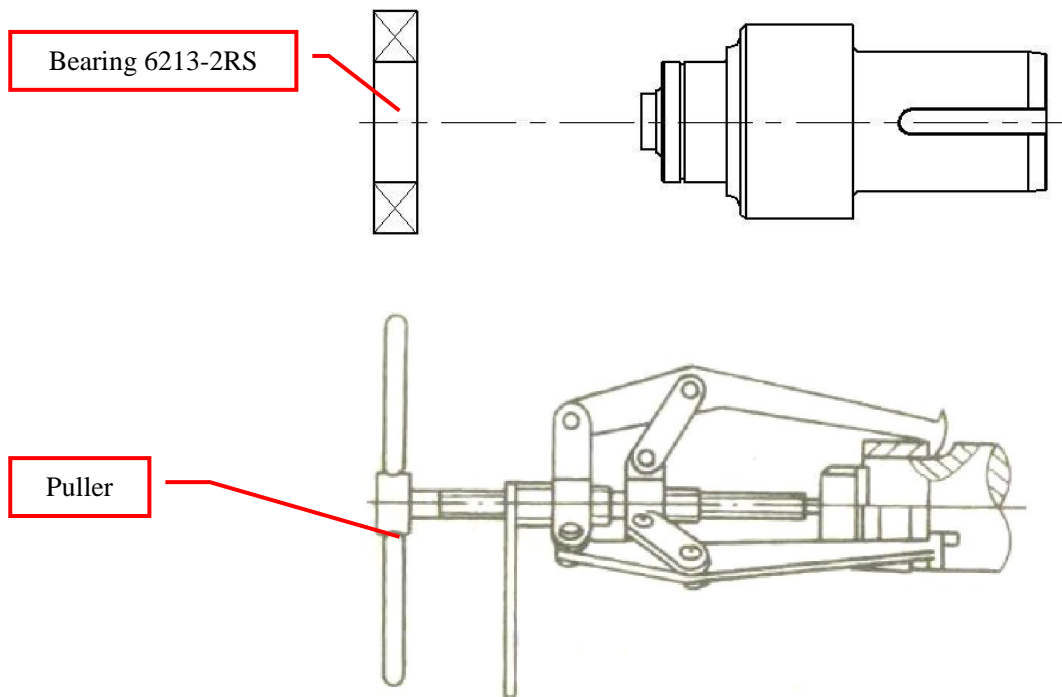
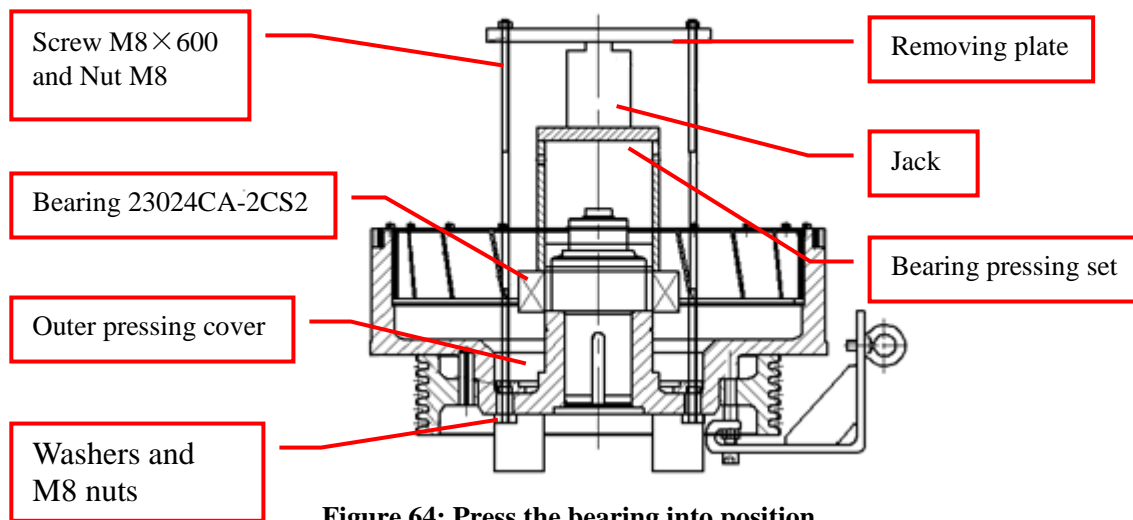

Figure 49: Pull bearing
Figure 64: Press the bearing into position
8. Pull out the bearing 6213-2RS with puller. See Figure 49.
2. Put three washers on the threaded rod M8x600. As shown in Figure 49. Slide the M8x600 threaded rod, washers, and 2 nuts through the brake wheel at the bottom of the 3-M20 hole and the outer pressing cover of 3- Φ 9 hole, bearing 23024CA-2CS2 brake wheel bearing, bearing pressing set, jack and removing plate, with nuts M8 fixation. Use the jack to press the bearing 23024 CA-2CS2 into place. Remove the jack, removing device, the screw and nut. See Figure 64.